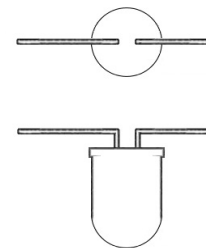

Fig 5 - LED leads
- 12 - Form the leads of the rainbow LED [Fig 5]